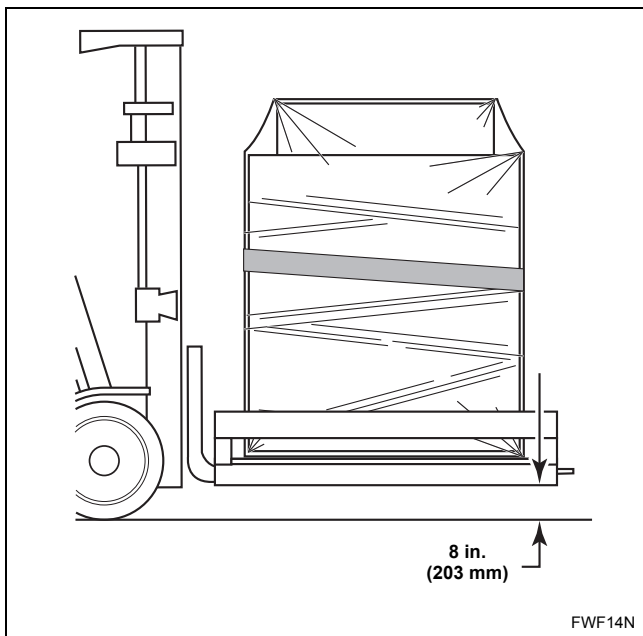

Figure 4
3. Use the forklift to carefully lift the packaged finisher. Refer to *Figure 4*.